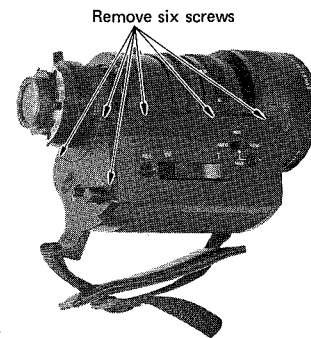

Fig. 10
- Remove six screws on the zoom unit cover A and B. (Fig. 10)